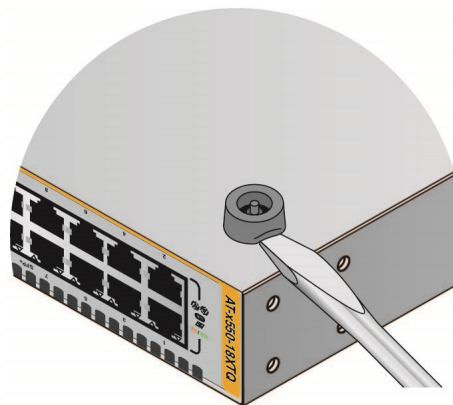

Figure 46. Removing the Plastic Feet from the Bottom Panel of the Switch
5. Use a small flat-head screwdriver to pry the four plastic feet from the bottom of the switch. Refer to Figure 46.